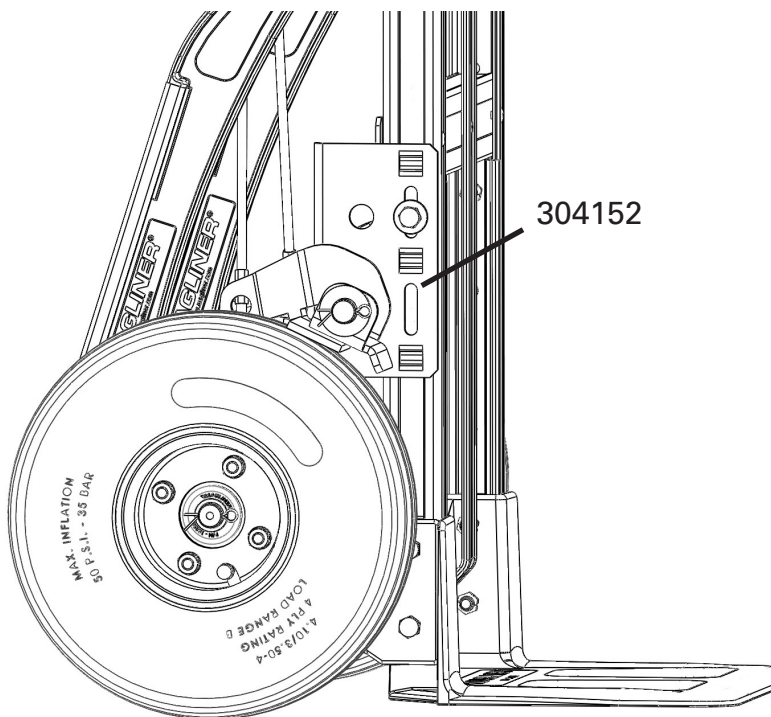

Figure 2
2. Position each of the bottom mounting brackets (304152) as illustrated in Figure 2. Fasten with the 5/16" x 1 1/2" long hex head cap screw (80013) and one 5/16" washer (80701) on the outside through the uppermost slot. Secure with the 5/16" locknut (80676) on the inside. (Note: Do not fully tighten until the final brake adjustment is done.)
2. Loosen the hex head screws that hold the bottom mounting brackets on each side of the frame using two 1/2" wrenches. Slide the brackets down such that the brake paddles are resting on the wheels (bottom mounting brackets are shown on page 3, Figure 2).